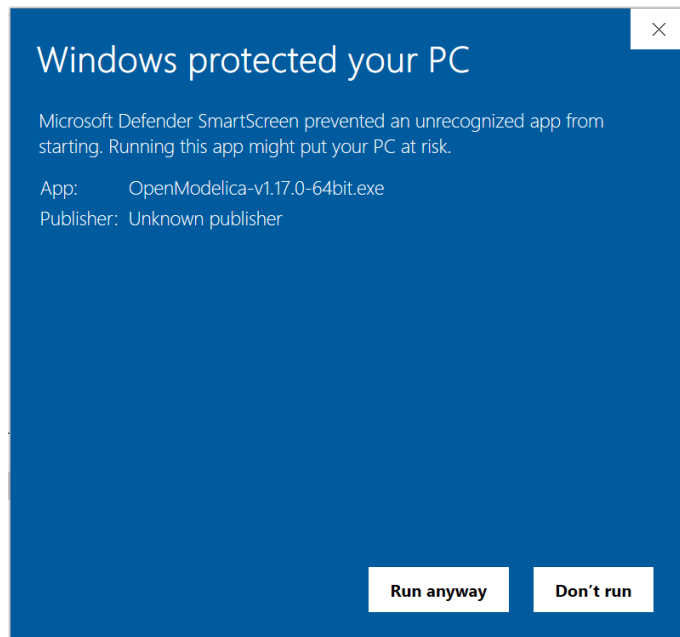

Figure 3.6: Allowing Microsoft Defender to run the executable file
5. Locate the executable file and double-click on it to begin the installation. After double-clicking on the executable file, you might get an alert on your screen (something like Windows protected your PC). If this happens, locate More info in this alert window and click on Run Anyway, as shown in Fig. 3.6 to continue with the installation. All the default parameters of the installation are acceptable.